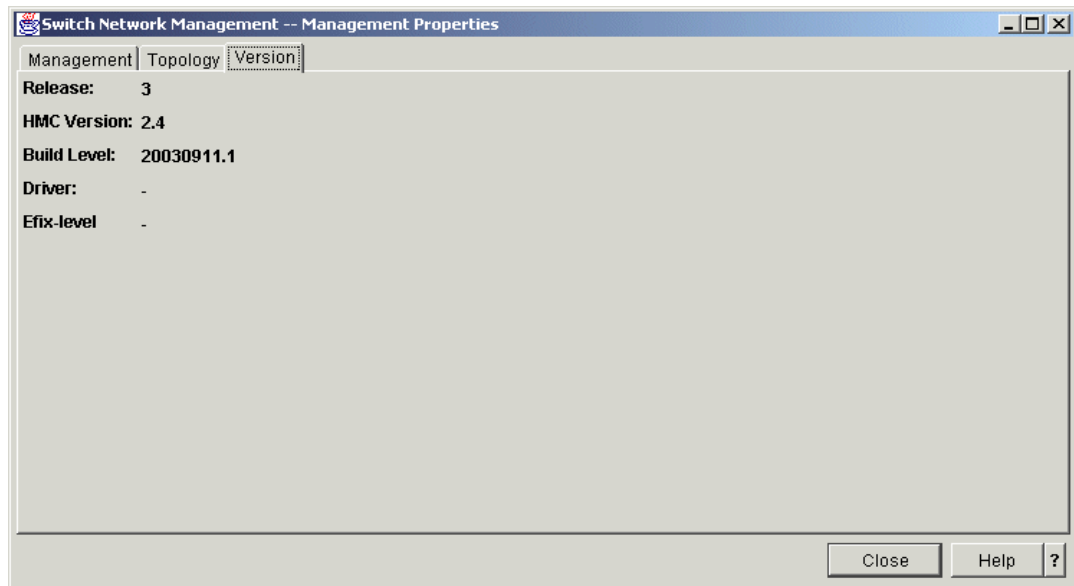

Figure 4-19 Switch Management Properties - Version View
- Version view (see Figure 4-19 on page 186): Select **Switch Management -> Switch Network Management -> Management Properties -> Version** tab.